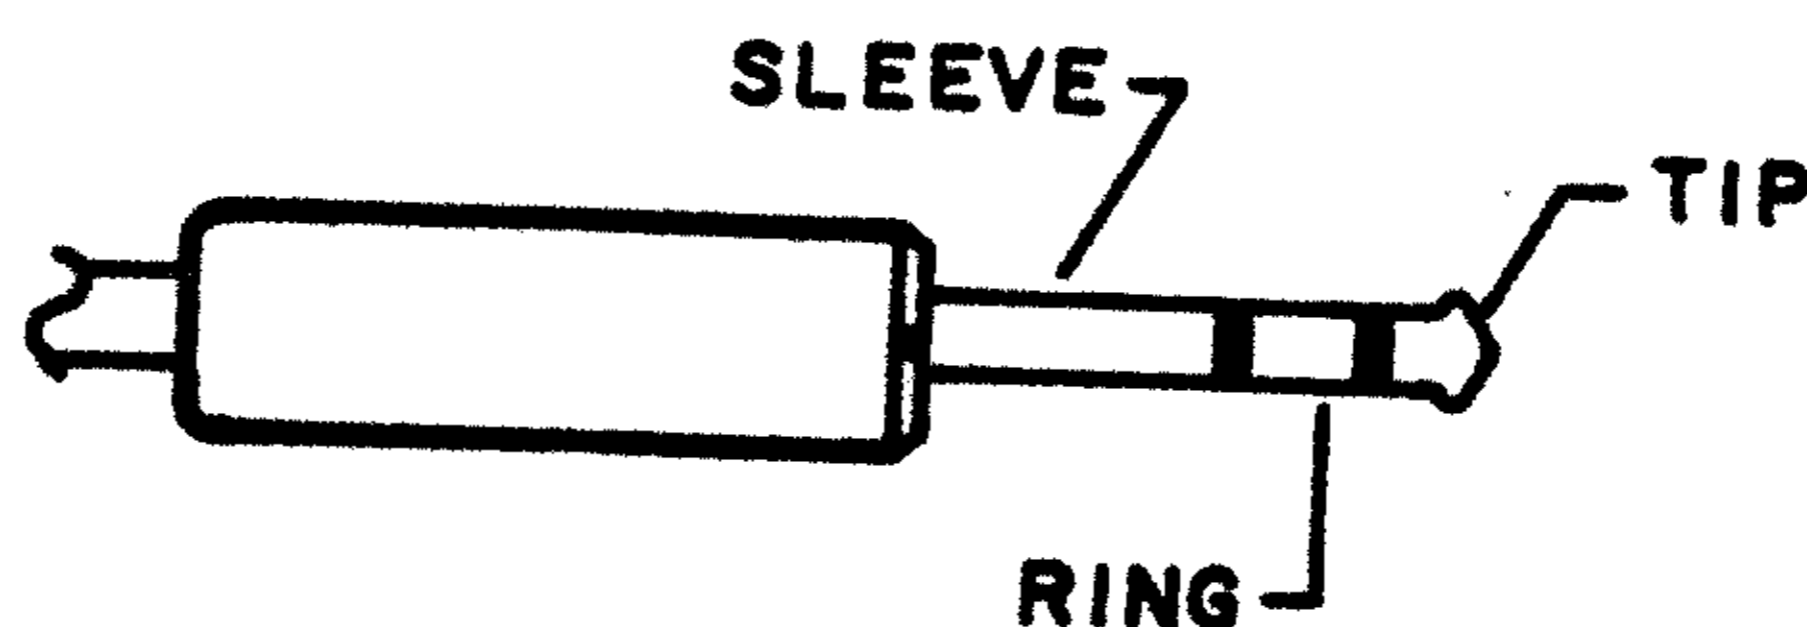

Figure 1-2. Tip-Ring-Sleeve Plug Outline Drawing.
* **Note:** The stereo headphone output provides 30 mW for each output on on stereo phone plug. Refer to **Figure 1-2**.